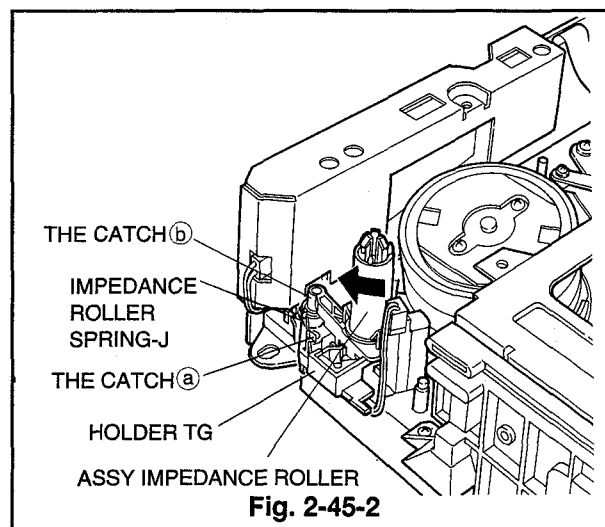

Fig. 2-45-2
- ① Unfasten the catch to remove the FLY WHEEL J.
- ② Remove the IMPEDANCE ROLLER SPRING-J from the catch ③ shown in Fig. 2-45-2.
- ③ Shift the ASSY IMPEDANCE ROLLER in the direction shown by the arrow. Unfasten the catch ④ and raise the ASSY IMPEDANCE ROLLER to remove it from the HOLDER TG.